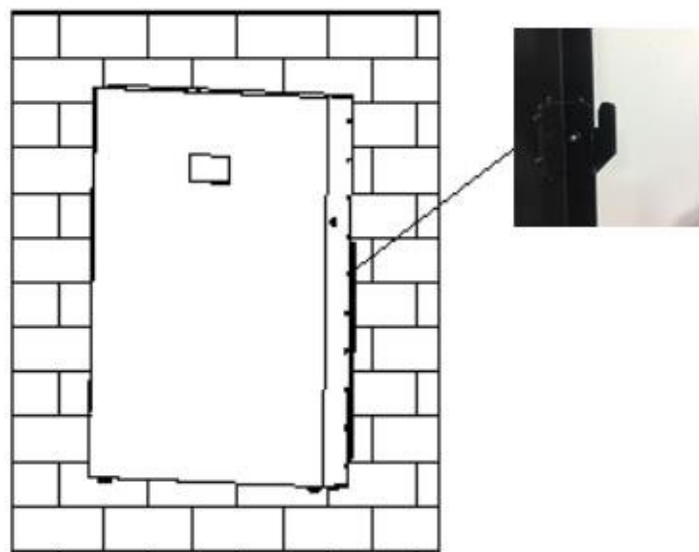

Figure 3-7
(2) Lift the battery pack and hook it on the wall mounting plate through the hooks on the wall mounting plate, as shown in Figure 3-7.